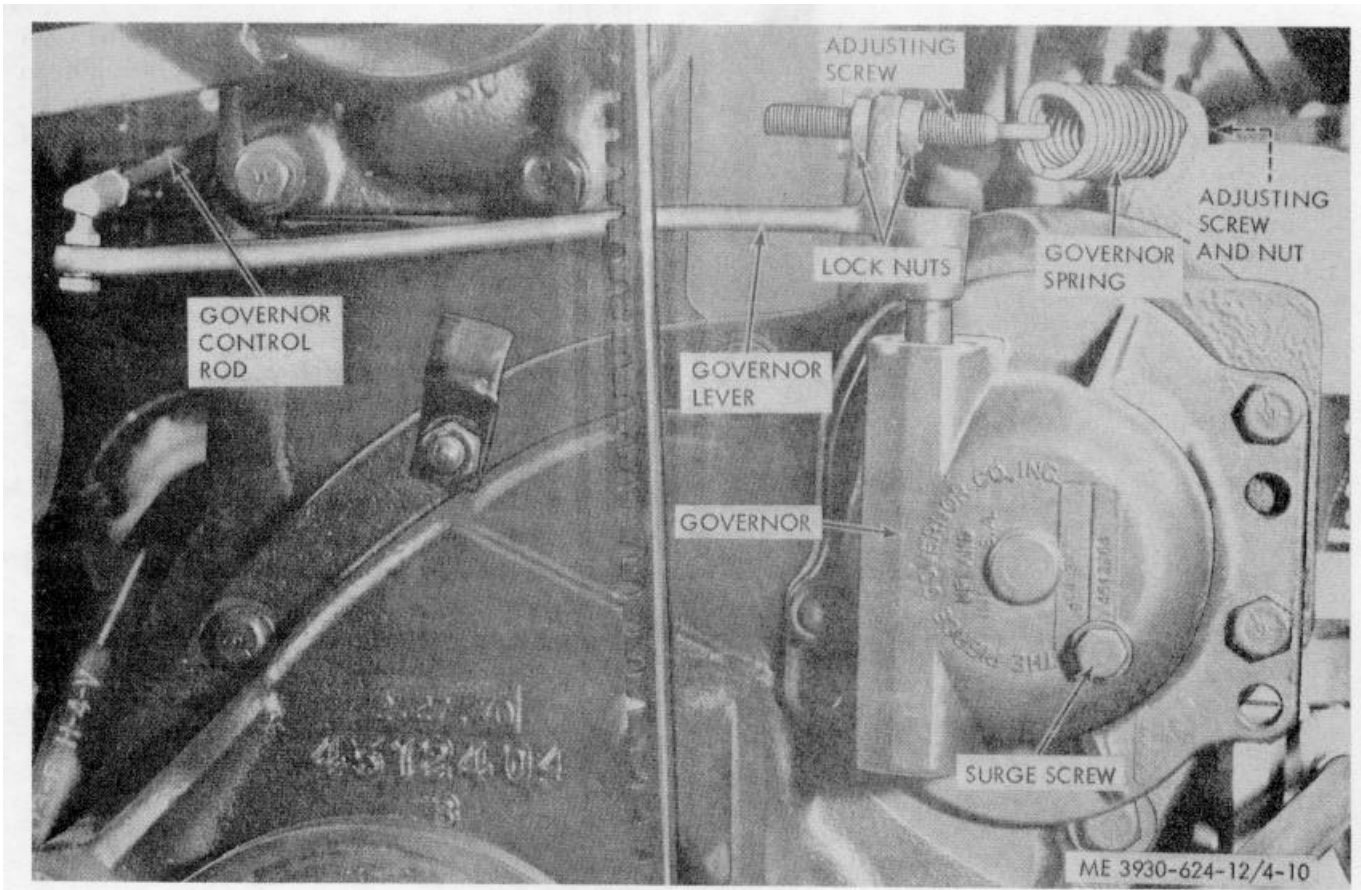

Figure 4-10. Governor adjustment.
*c.* Release tension from governor spring and operate the carburetor governor lever manually to check for binding in the linkage. Remove any binding and adjust the governor spring (fig. 4-10) tension to its original position.